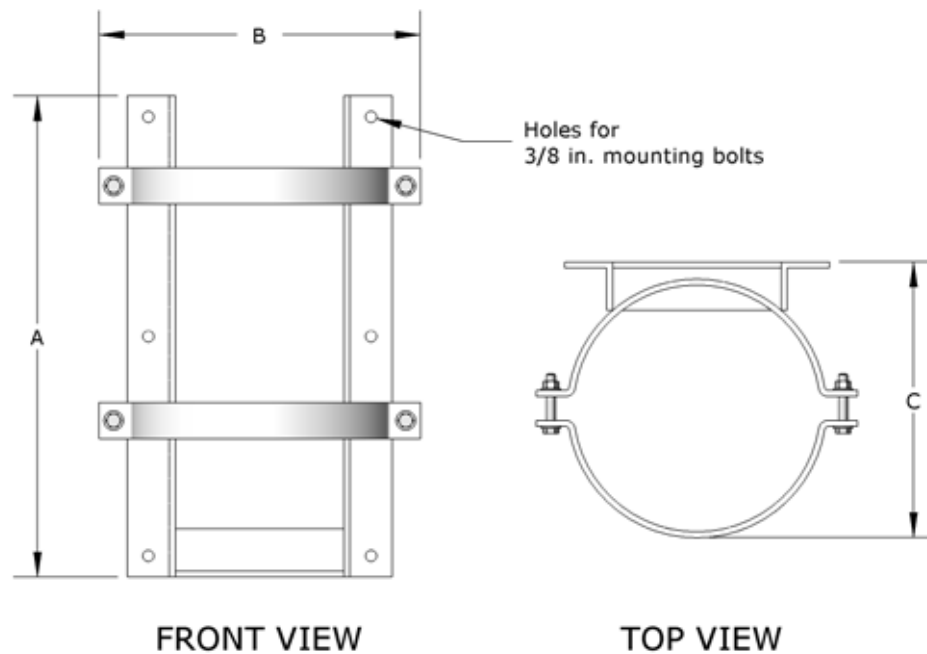

Figure 2-4. Sentinel DCS-25, DCS-50S, and DCS-50T Cylinder Mounting Bracket Dimensions
The Sentinel DCS-25 cylinder mounting bracket may be mounted to a wall (vertically) or deck (horizontally) using four (4) 3/8-inch grade 8 bolts of a suitable length. The Sentinel DCS-50S and DCS-50T may be mounted to a wall only. The DCS-50S uses four (4) 3/8-inch grade 8 bolts and the DCS-50T uses six (6) 3/8-inch grade 8 bolts of a suitable length. Two steel clamps are used to secure the cylinder to the bracket using the hardware provided. See Figure 2-4 and Table 2-2 for dimensions and specifications.